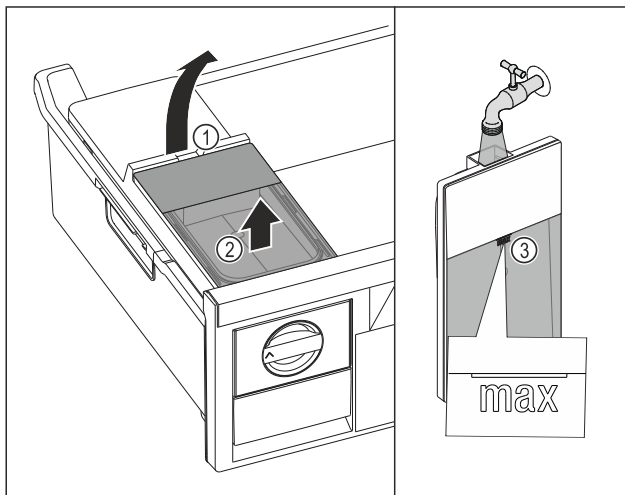

Fig. 144
- Lift the water tank at the recess Fig. 144 (1).
- Remove the water tank by lifting it upwards. Fig. 144 (2)
- Fill the water tank with drinking water up to the mark Fig. 144 (3).